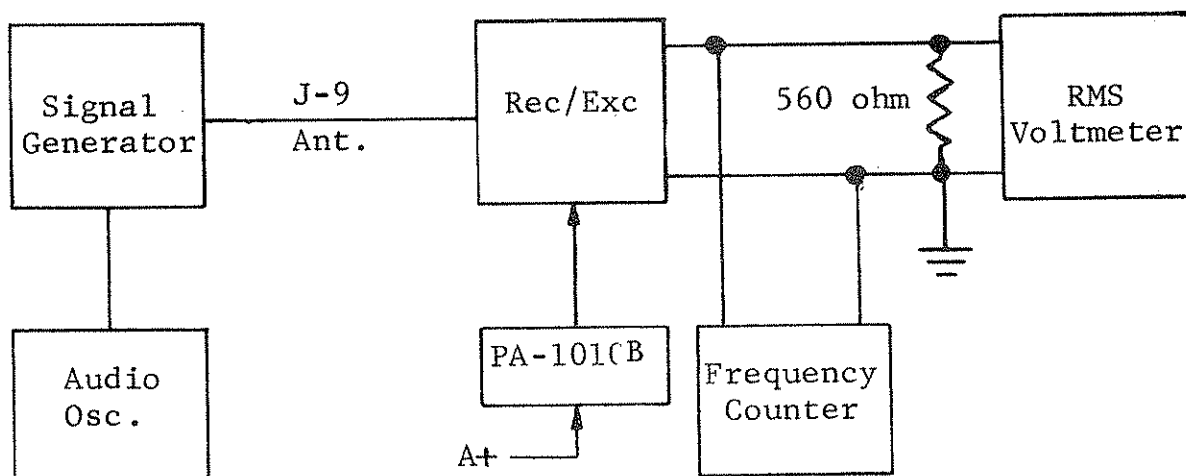

Figure V-4
- (1) Follow steps (1) through (4) of Paragraph 1-a.
(2) Connect test equipment, as shown in Figure V-4.